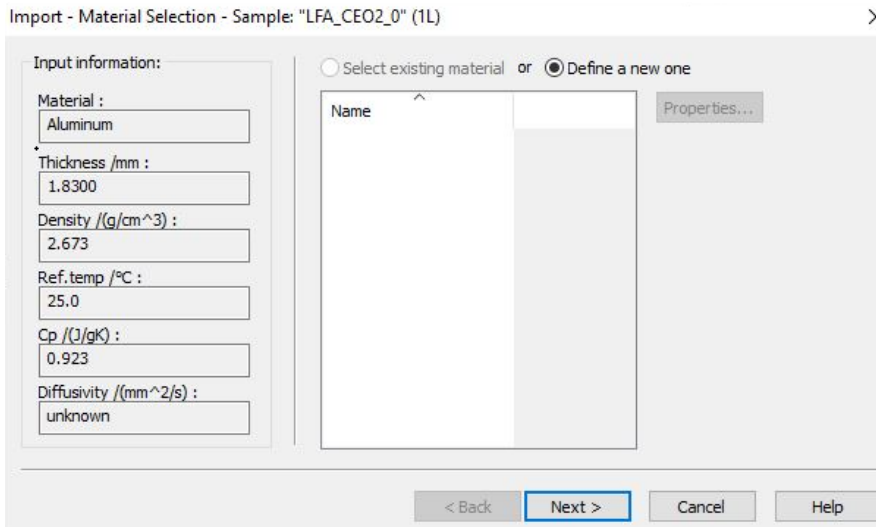

Figure 34. Import Material Selection pop-up window.
- The Import Material Selection window for the sample will pop up; the material will need to be defined for the first time or selected from an existing list (as shown in Figure 34).